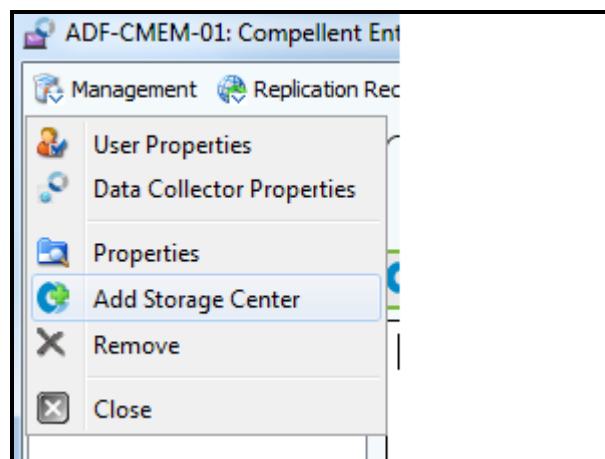

Figure 5: Navigating through the Management menu
9. Next, add the target Dell Compellent Storage Center that is to be monitored by clicking the **Add Storage Center** option that appears upon clicking the **Management** menu (see Figure 5):